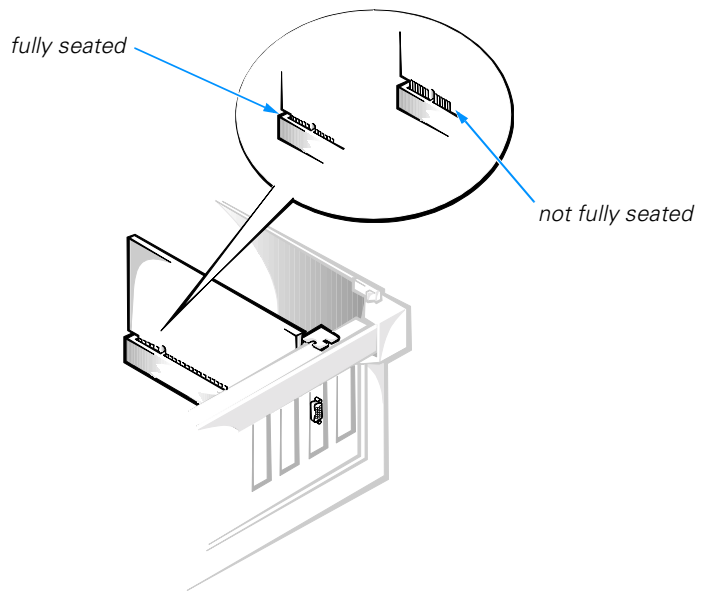
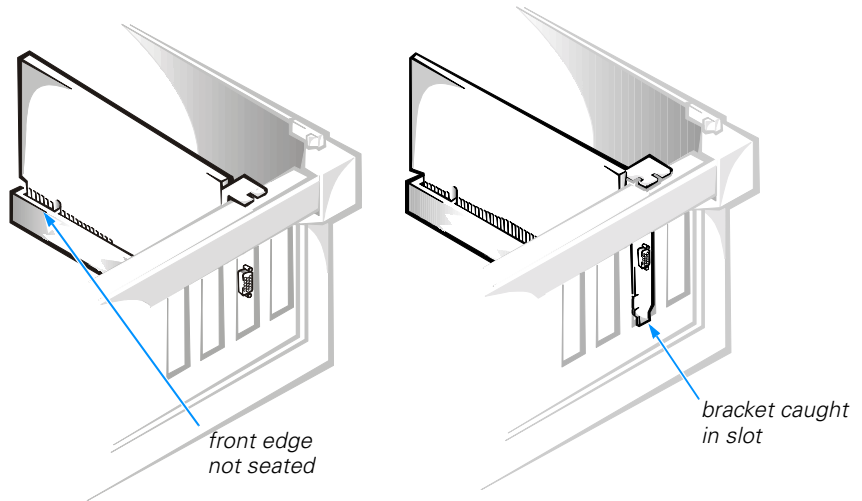

Figure 6-1. Expansion-Card Installation
Figure 6-2. Incorrect Expansion-Card Installations
Figure 6-1 illustrates a correctly seated expansion card, and Figure 6-2 illustrates incorrect expansion-card installations.
4. Remove and reinstall the modem, fully seating the card in its connector (see Figure 6-1).
Make sure the video card is fully seated in its connector (see Figure 6-1).